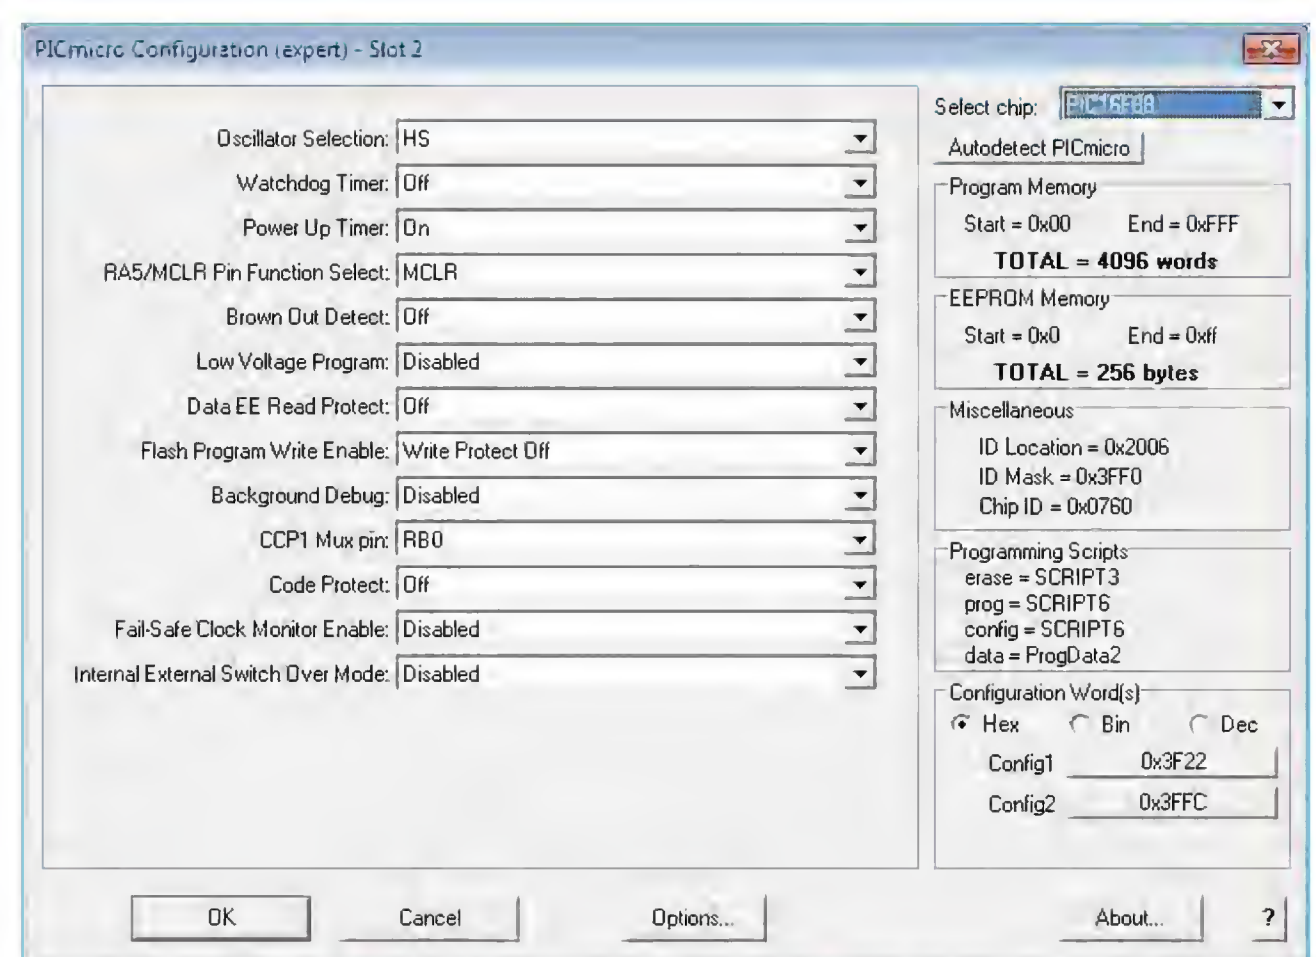

Figure 3. Flowcode method of configuring TMR0 for interrupts.
Step 3. With the receiver part working it was possible to proceed with the actual dimmer part of the software. This uses the TMR0 interrupt on overflow, and it's used for zero crossing detection as well as a timer to define the triac firing instant. This is done by means of a Flowcode interrupt component to enable the TMR0 interrupt, choosing TMR0 as interrupt source, TOCKI as clock source, the Low to High transition as the clock, and setting the prescaler to 1:1; see the screendump in **Figure 3**. Using a C code component to preset the TMR0 to 0xFF will enable the zero crossing detector as an overflow will occur at the first zero crossing of the AC line voltage. This in turn will call the macro called 'Fire_triac' containing a decision component at the start that decides which way to branch in the program. If Enable_trigger = 1 the triac will be fired, Enable_trigger is reset to zero, and TMR0 is ready to overflow on the next zero crossing. If Enable_trigger = 0 TMR0 is loaded with a value so that it will produce an overflow when the triac is due to fire.
Now the program goes into ‘loop forever’, this is where the actual DMX data byte receiving is performed (one of Apple’s head offices in Cupertino CA, is at the address: 1, *Infinite Loop*). First, the program has to detect a ‘break’ on the DMX line. This is done in the outer loop where frame errors on received bytes are detected. Once bytes without frame errors are received the next thing to test for is a Start of Frame (SOF) byte, which for dimmer modules equates to 0x00h. If it was a SOF byte, then the next thing to do is count the received bytes until the selected DMX address is reached, then copy the received DMX data to the register used in the TMR0 macro, that’s it! A part of this routine is shown in **Figure 3**.